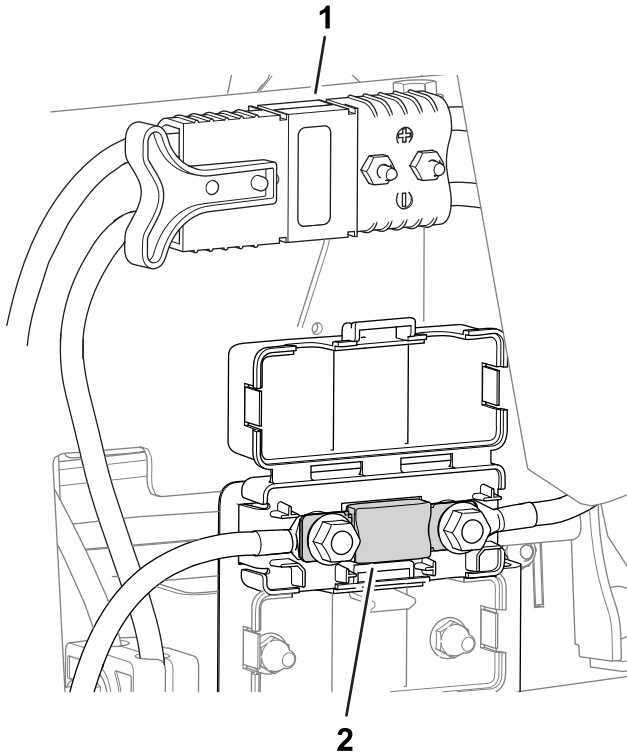

Figure 47
- The fuse for the electrical system is located under the main-power connectors (Figure 47).